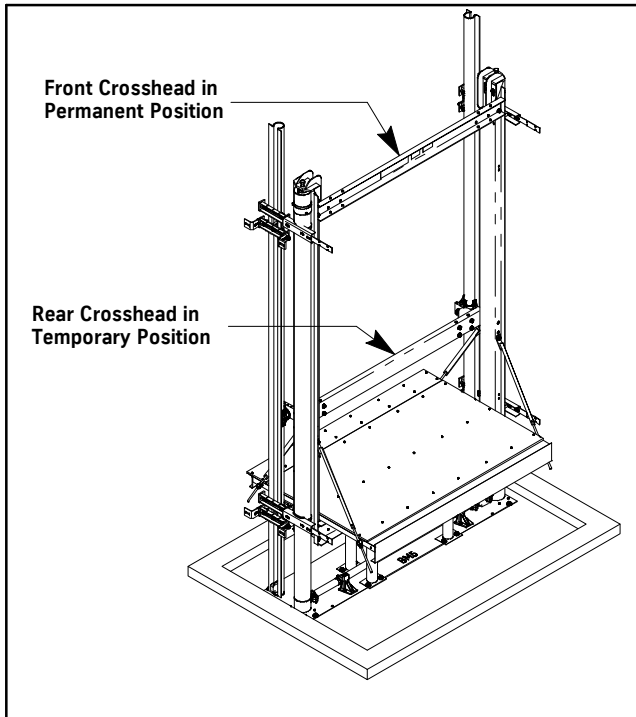

Figure 19 - Crosshead Installation
3. Place the rear crosshead channel between the two stiles in the lowest location directly above the two rear brace rods about three feet above the platform. See Figure 19.